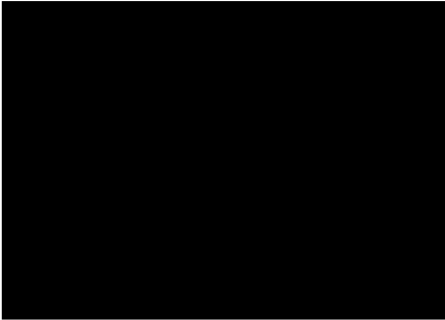

figure 14.
- Check mounting structure with Torque value 8-12 N-m and mark torque. as shown in figure 14.